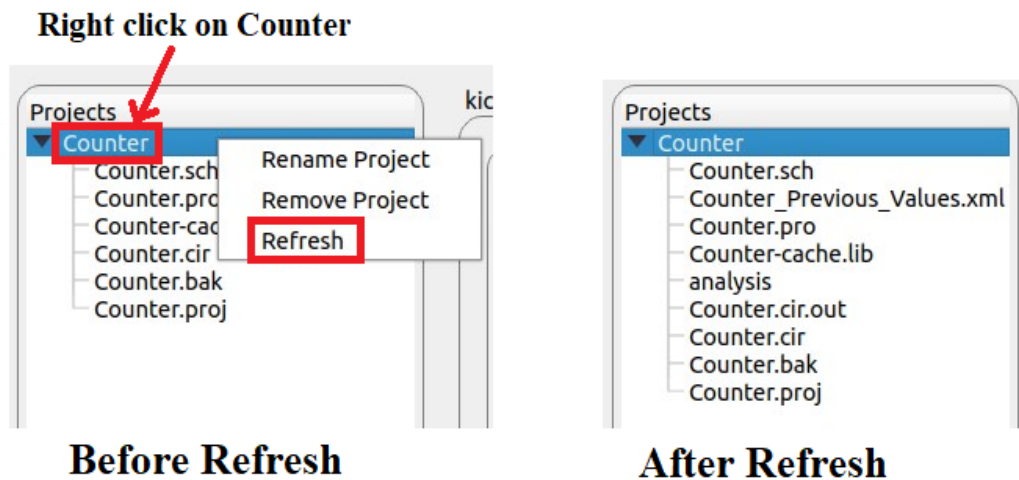

Figure 11.36: Cir.out file added after conversion
4. Next, right click on **Counter** and click on **Refresh** as shown in Fig. 11.36. It can be seen that Project\_Name.cir.out file (Note: In this example, project name is Counter, so the file name is Counter.cir.out) is added after pressing refresh. Repeat this step for every rerun of KiCad to Ngspice conversion.
7. Close the simulations plots, and right click on **Counter** button and click on **Refresh** button as shown in Fig. 11.36 to update the plot data files in the Projects folder.